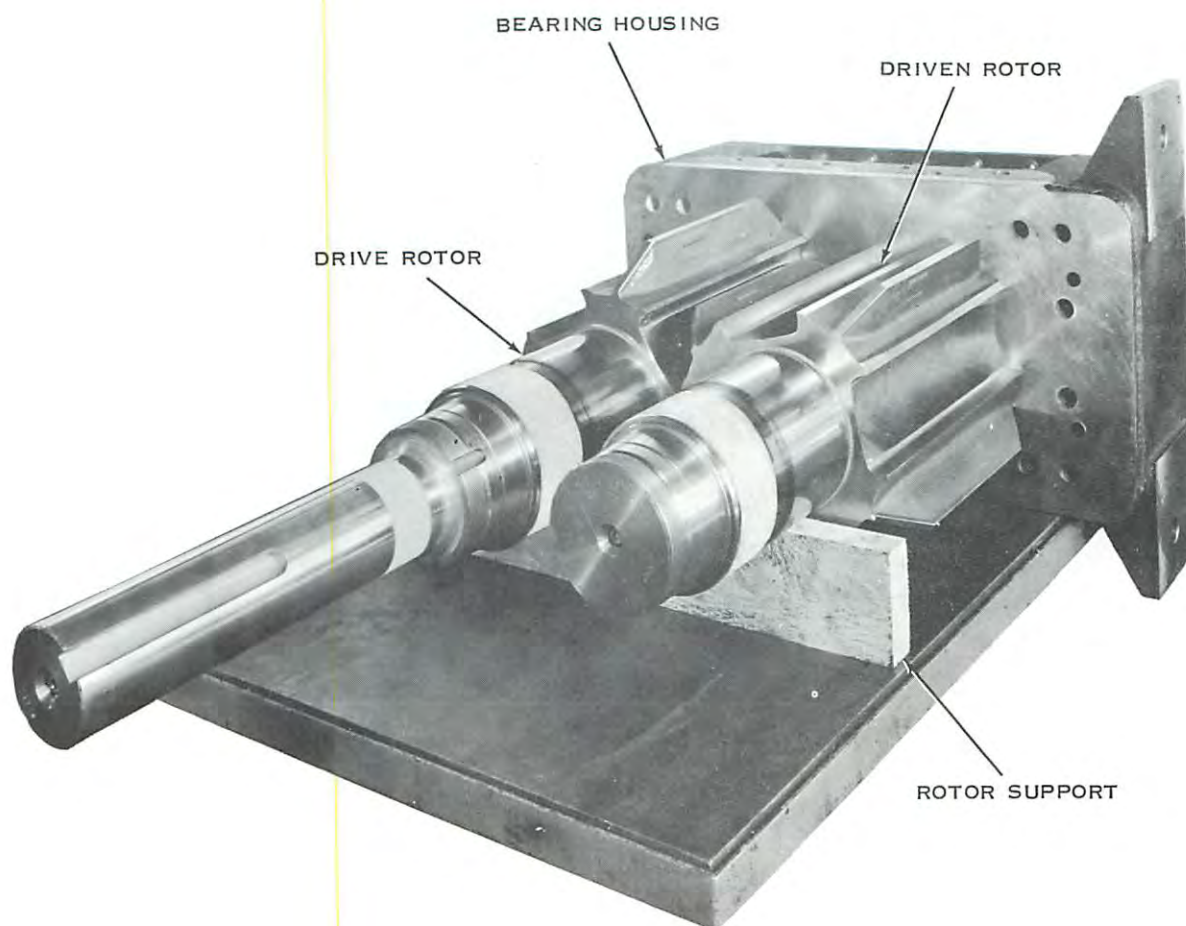

FIGURE 6. ROTORS AND BEARING HOUSING
3. SLIDE ONE BEARING HOUSING OVER THE ROTOR SHAFT REPLACING STUFFING BOX LANTERN RING AND INNER BEARING COVER AS HOUSING IS ASSEMBLED. BE SURE INNER BEARING COVER IS PROPERLY REASSEMBLED AND HAS NEW OIL SEALS AND "O" RING. SLIDE BEARING HOUSING UP TO THE BLOCK. SUPPORT ROTORS WITH SLINGS IN THE BEARING HOUSING OPENING. REMOVE BLOCK AT BEARING HOUSING END (SEE FIGURE 6).